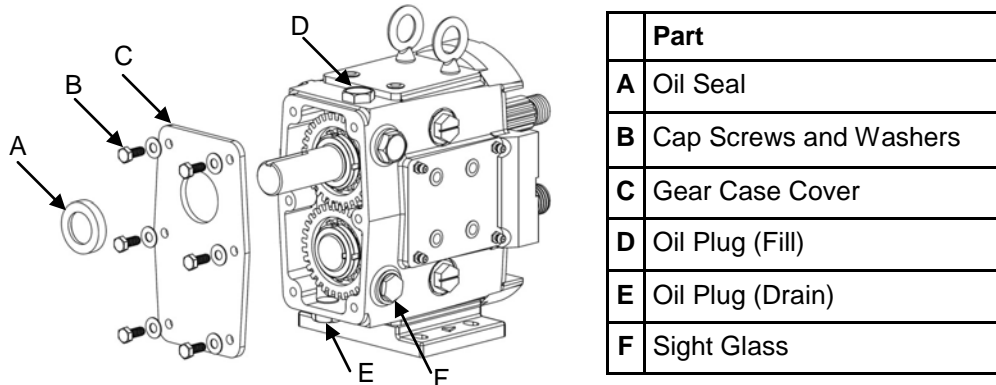

Figure 29: Gear Case Disassembly (Gear Case Cover)
1) Remove the pump head as described on page 16 (Pump Disassembly). Remove the bottom oil plug and drain the oil from the gear case (remove oil fill plug for faster drain). Remove the six hex head cap screws and washers from the gear case cover and slide the cover off the drive shaft (Figure 29). If the cover is stuck, use a soft mallet to tap around the edges until it breaks free. Using a straight edge remove the liquid gasket used to seal the cover to the gear case. Remove and discard the oil seal from the cover using an arbor press.